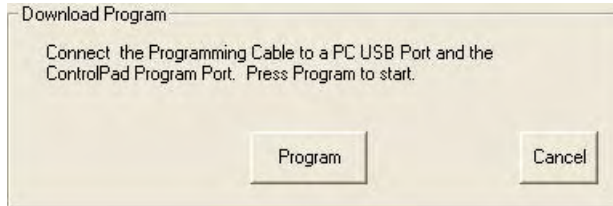

FIG. 18 Download Program window
2. Click on the **Program** menu bar item. This invokes the *Download Program* window (FIG. 18).